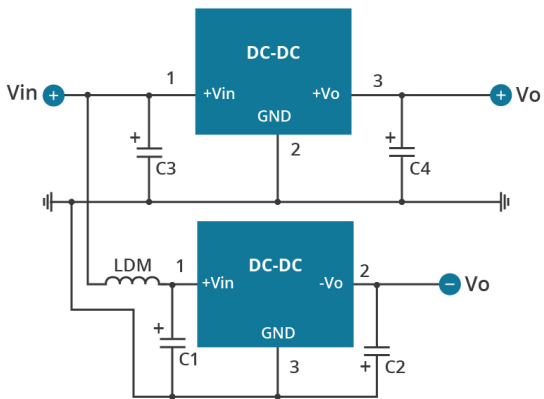

Figure 4
- To reduce the output ripple further, it is recommended to connect an "LC" filter at the output terminal with a recommended value of 10~47 μH for the L component. (See Figures 4 & 5).